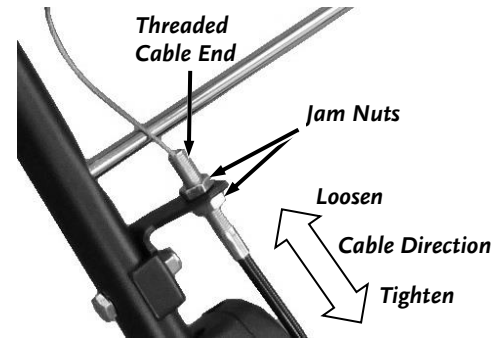

Figure 47
1. Locate the Trimmer Head Cable along the left Handlebar. There is an In-Line Adjuster to change the tension on the Cable (**Figure 47**).